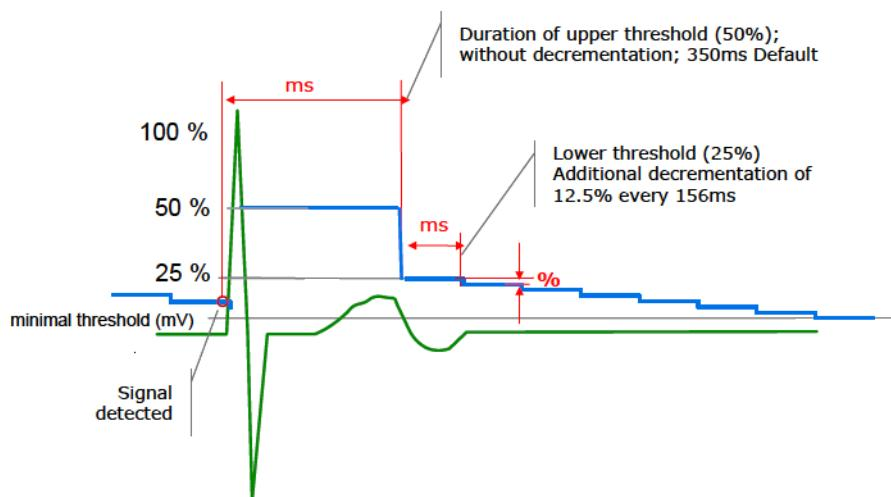

Figure 79: Automatic Sensitivity Control (ASC) in the LV channel
The Rivacor ProMRI® ICD has two sensitivity settings in the left ventricle: Standard and OFF (Figure 79). In the Standard ventricular setting, each R-wave is measured and used to reset the upper and lower thresholds. The Upper threshold (UT) duration after sensing is set to 50% of the peak R-wave amplitude. Following the Upper threshold duration after sensing, the device drops to a 25% value for the lower threshold duration. The device will continue to decrement 12.5% of the measured R-wave value every 156 ms or until the minimum threshold is reached or until a new R-wave occurs.